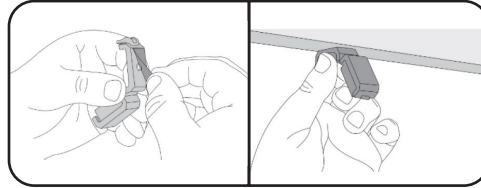

fig 4.3
5. To secure and organize the cables, determine where to place the cable management clips. (fig 4.3)
6. Peel the adhesive backing off a cable management clip and place it on the ceiling. Be sure to press firmly to ensure it sticks. (fig 4.3)